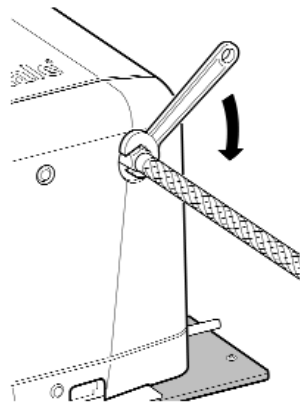

Fig. 25
Step 13 Connect Hot Water Supply (see Figs. 25 & 26)